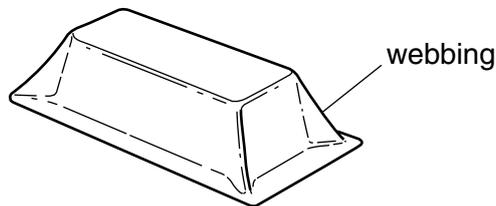

Fig. 3
- (c) Fig. 3 shows a fault known as 'webbing' that can occur during vacuum forming.